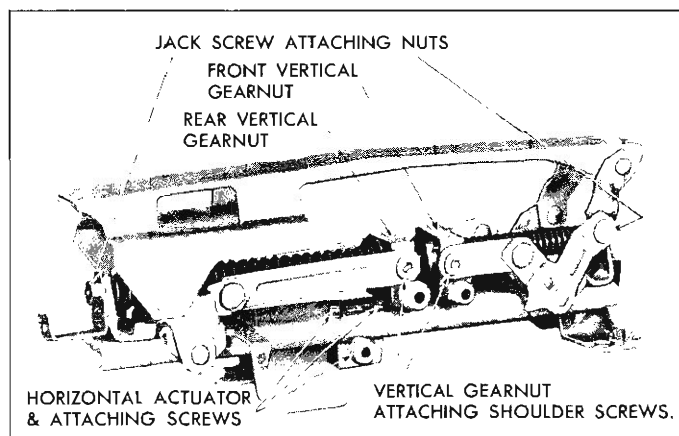

Fig. 45—Six Way Seat Adjuster
3. Using clutch-type screwdriver or other suitable tool, remove shoulder screws securing linkages to vertical gear nuts (fig. 45).